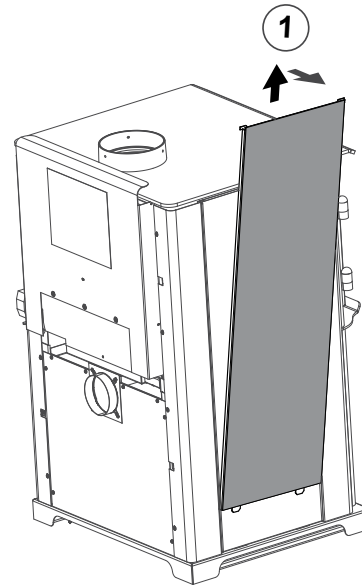

Figure 24.4
- Remove solid panel from side by lifting up and pulling away from appliance (use a flat tool to pry from bottom if needed) (**Figure 24.4**).
- Remove tile frame from side by lifting up and pulling away from appliance (**Figure 24.4 reference solid side panel removal**).